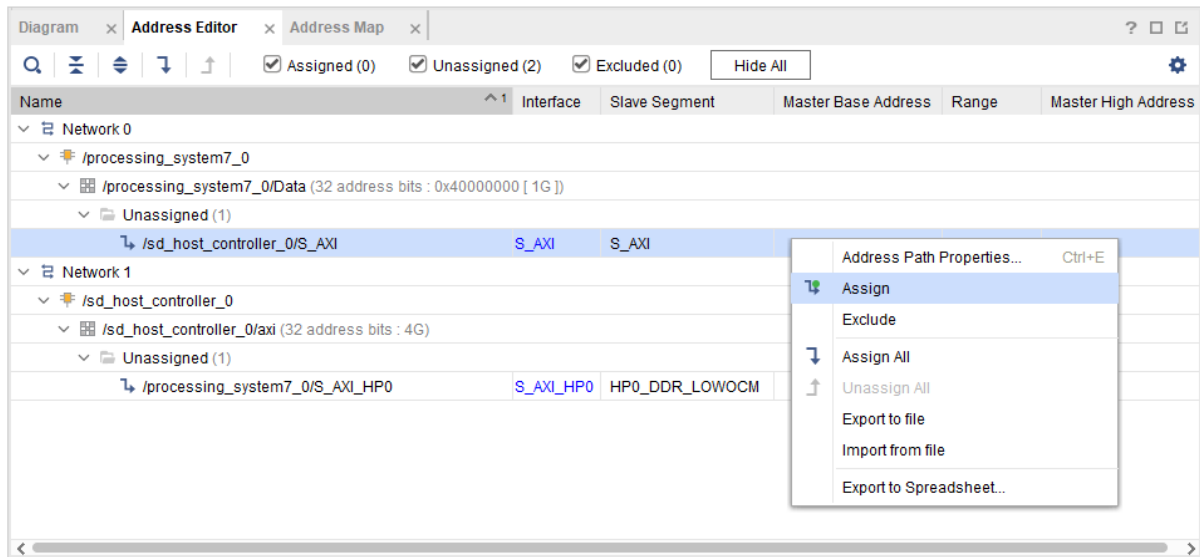

Figure 9: eMMC Host Controller 5.1 IP Configuration step 6
- Once the block design was created, then go to Address Editor window to assign the address to Zynq-7 processor and sd_host_controller IP as shown in Figure 9.